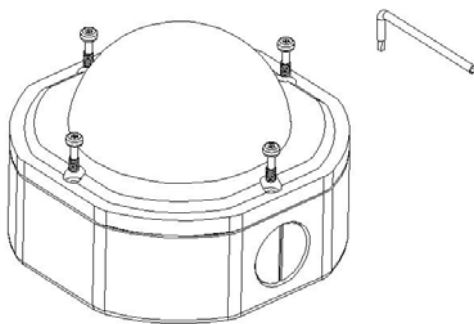
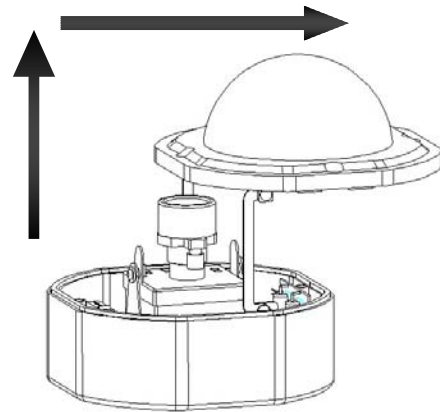

Figure 1
Figure 2
1. Loosen the 4 fix screws on the housing cover by using the attached wrench (Figure 1). Carefully uncap the housing cover as the direction shown below (Figure 2), please pay attention not to damage the lens. To remove the housing cover, push the hinges to the bottom of the bracket, the hinges can be easily removed from the bracket.